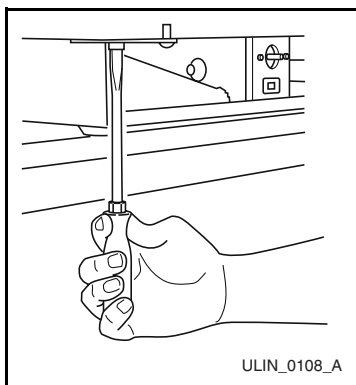

Figure 15
- Install bottom hinge on cabinet, opposite side, aligning flat edge of hinge with outer edge of unit (**Figure 15**). Partially tighten screws.